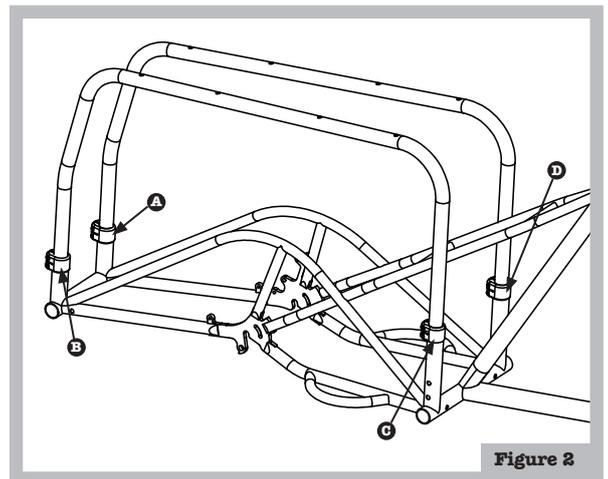

Figure 2
- Using a stock bike in a non-passenger application or with an approved child seat—both collars in the rear position (A and B, Fig. 2)
- Stock bike with Surly passenger accessories and Surly Dummy Cargo system (deck, rails, and bags)—diagonal orientation is recommended, one collar in the front position (C) and one in the rear position (A) (Fig. 2)
- If using any other passenger accessory combination and/or cargo kit system, four (4) collars (A–D) are required (Fig. 2)